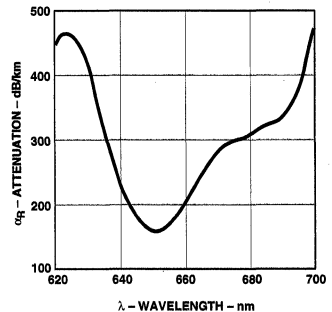

Figure 1. Typical PO Fiber Attenuation vs. Wavelength.
7. Note that α_R rises at the rate of about 0.0067 dB/°C, where the thermal rise refers to the LED temperature changes above 25°C . Please refer to Figure 1 which shows the typical plastic optical fiber attenuation versus wavelength at 25°C .